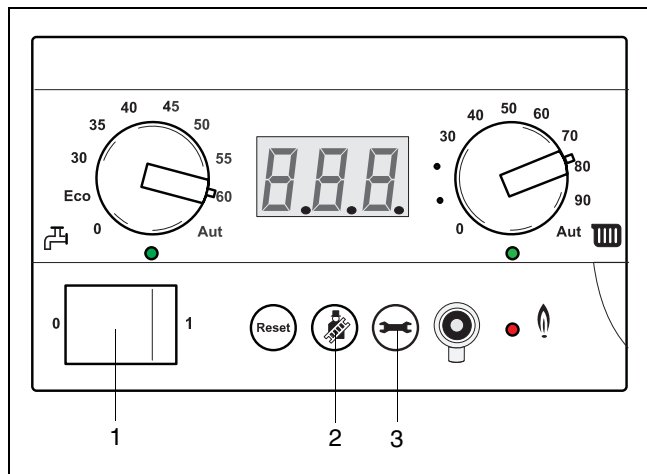

fig. 41 Press the chimney sweep button
- Take the boiler out of service by pressing the mains switch (fig. 41, item 1) to "0".
- Set the mains switch (fig. 41, item 1) to "1".
- Create a heat demand by pressing the chimney sweep button (fig. 41, item 2), until a LED is visible in the lower right hand corner (chimney sweep mode).
- Turn the mains power switch to "0" (fig. 41, item 1).
- Set mains power switch to "1" (fig. 41, item 1).
- Set the mains power switch to "0" (fig. 41, item 1).
- Set the mains power switch to "1" (fig. 41, item 1).